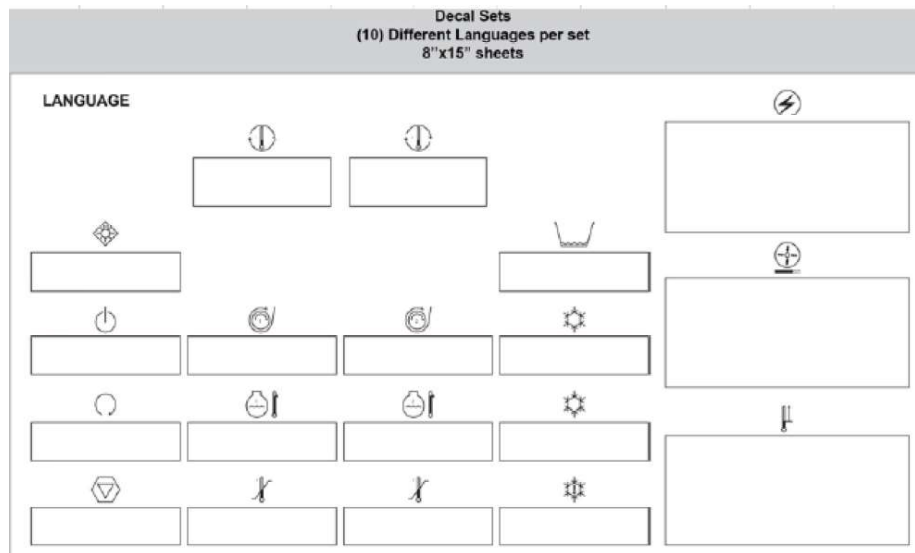

Figure 11 Decal Sets
**NOTE:** See Figure 11. Each TCU is provided with a set of language translation tags to be applied locally. The language tags match up to the symbols on the front panel of the TCU. Tag sets are provided for a dual unit. If only a single unit was purchased, please disregard the tags for the second channel.